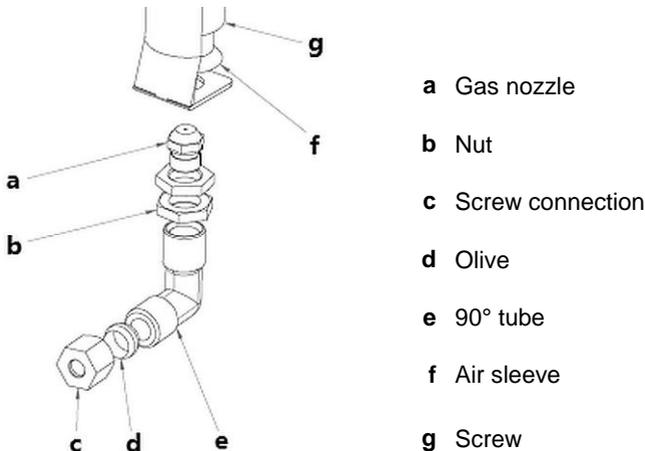

Fig. 3
1. Before you ignite the gas flame, make sure the gas controller is in OFF position (2, Fig. 3).